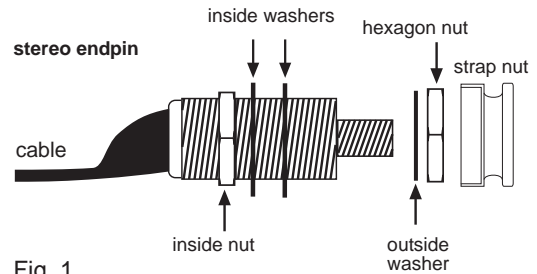

Fig. 1
10. Remove the strap nut and hexagon nut from the stereo endpin. (Fig. 1).